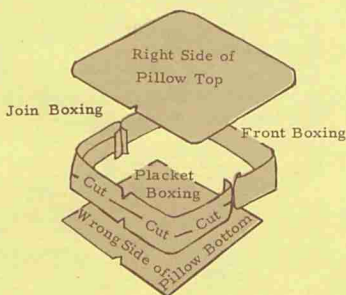

Figure 27
**Covering the Cushion.**—The placket in the boxing extends approximately half way around the pillow for ease in taking the cover off and putting it on (figure 27).